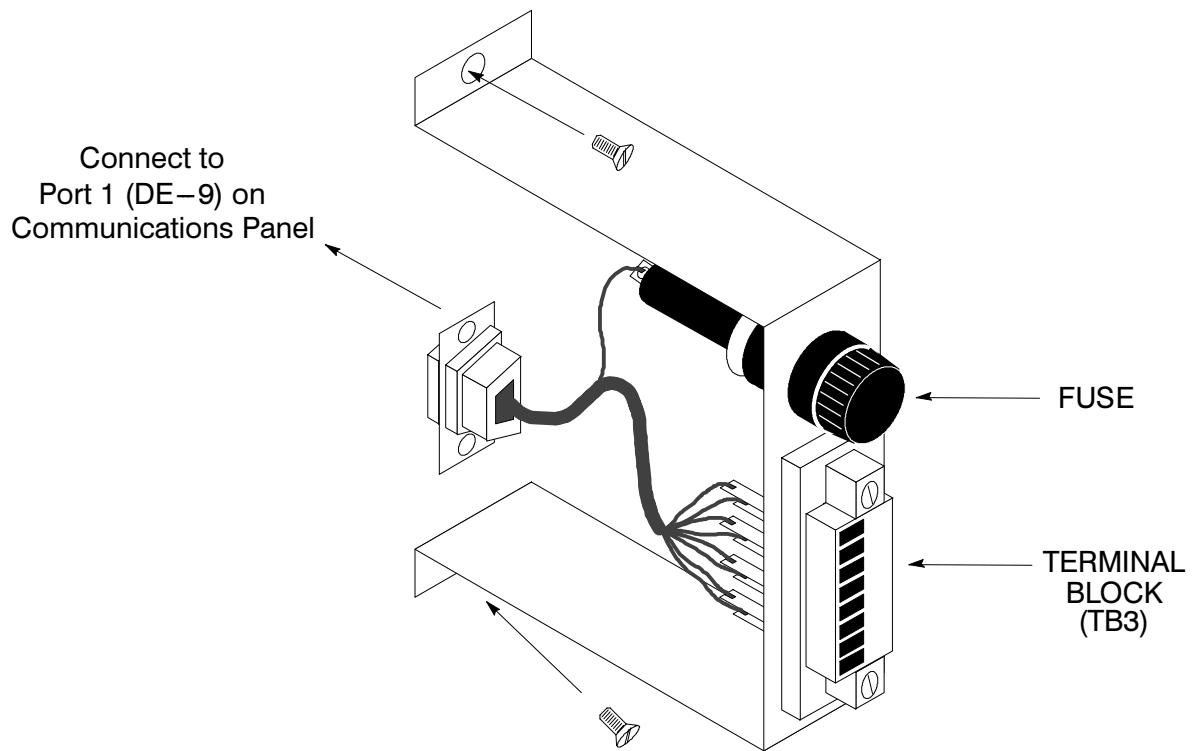
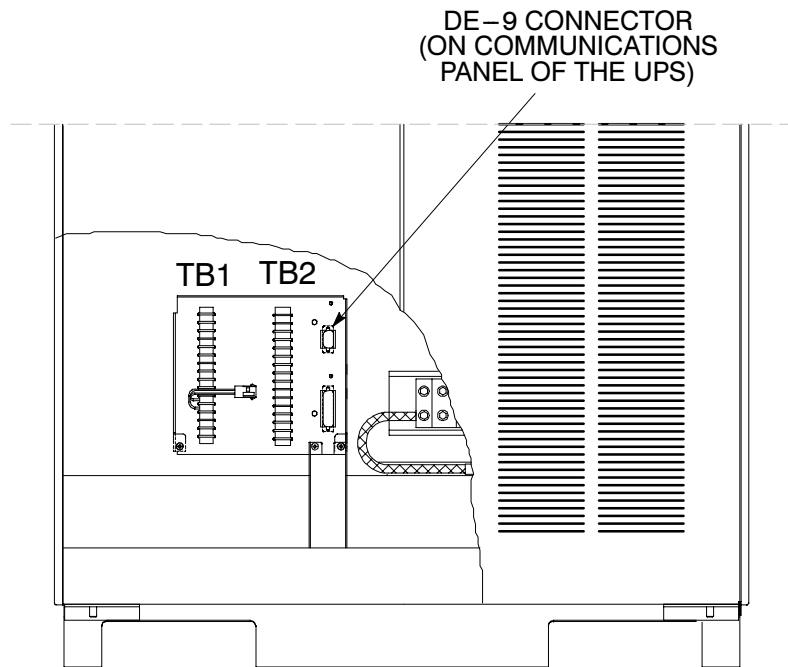

Figure 21. Terminal Block Bracket
Figure 22. Wiring an RMP to the UPS
3. In the spare parts kit, locate the RMP adapter cable assembly (see Figure 21). Mate the DE–9 connector on the back of the terminal block into the DE–9 connector on the Communications Panel of the UPS (see Figure 22). Use two screws from the spare parts kit to secure the terminal block bracket to the Communications Panel.